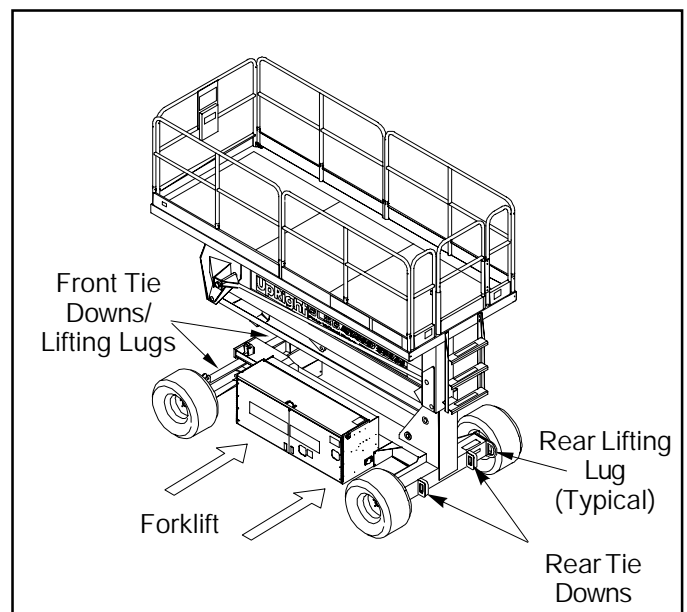

Figure 5: Transporting Work Platform
Forklift from side of Chassis by lifting under the Chassis Modules (Figure 5).
Secure straps to Chassis Lifting Lugs only (Figure 5).
2. Secure the work platform to the transport vehicle with chains or straps of adequate load capacity attached to the chassis tie down lugs (Figure 5).